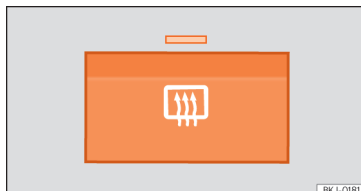

Fig. 147 With the air conditioning controls: heated rear window.
- Press the demisting button » » » Fig. 147